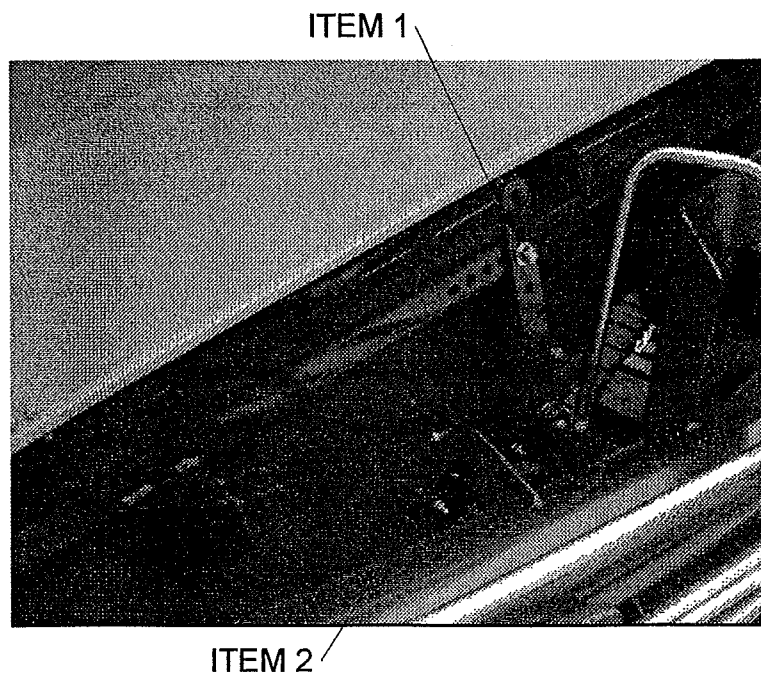

Fig 7.3
The control rollers are adjusted by bolting an arm in one of a series of holes. Set the control rollers to the desired position and ensure all nuts and bolts are re-tightened. (Fig 7.3 item 1).
The agitator shaft can be adjusted up and down by bolting the bearing housing in one of its three positions. (Fig 7.3 item 2). Both sides must be adjusted to the same position. Ensure all nuts and bolts are re-tightened after changing position.